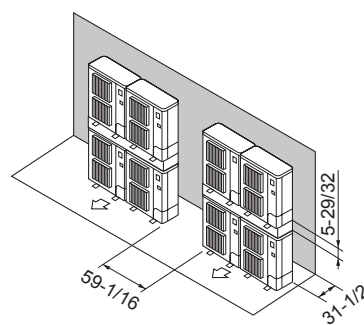

Fig. 2-17
⑦ Stacked unit arrangement (Fig. 2-17)